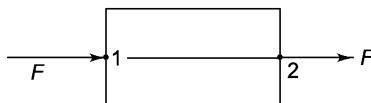

FIGURE 8.4 Law of transmissibility.
The *law of transmissibility of force* states that the state of a rigid body (rest or motion) is unaltered if a force acting on the body is replaced by another force of the same magnitude and direction but acting anywhere along the line of action of replaced force. Consider a force (F) acting at point 1 of the body (Figure 8.4). The force will have the same effect if it is acting at point 2 as point 2 lies on the line of action of the force (F).